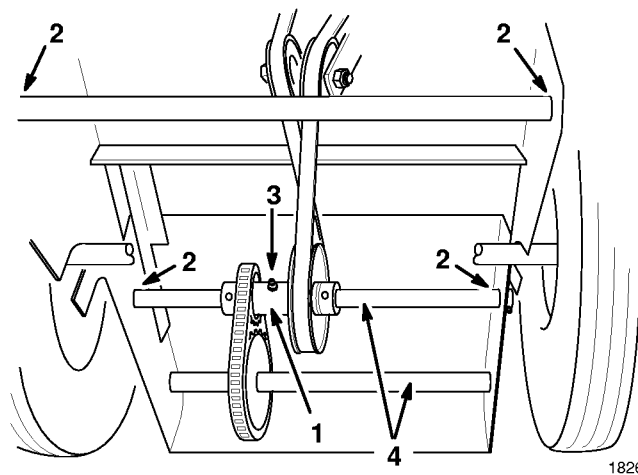

Figure 22
2. Place a few drops of engine oil in each of the caster wheel bushings and where front wheel support pivots in engine base. Also, oil where rear traction shafts pivot in engine base (Fig. 22).
Lubricate the rear idler assembly with No. 2 general purpose grease after every 25 hours of operation or more frequently when conditions are dusty or sandy (Fig. 22).